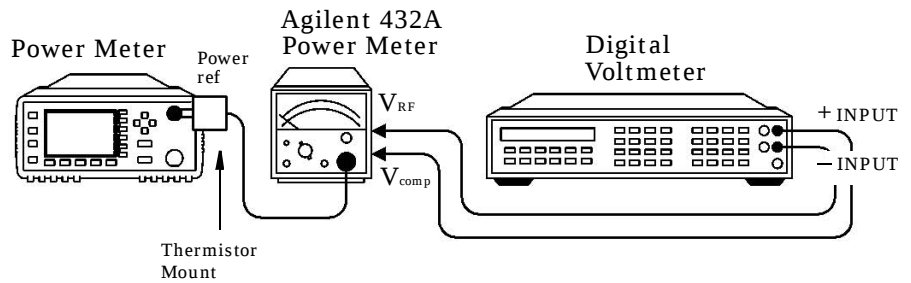

Figure 3-3: Adjustment Setup
1. Set up the DVM to measure resistance. Connect the DVM between the V_{RF} connector on the rear panel of the Agilent 432A and pin 1 on the thermistor mount end of the sensor cable. Verify that no power is applied to the Agilent 478A 2. Round off the DVM reading to two decimal places and record this value as the internal bridge resistance (R) of the test power meter (approximately 200 Ω). • R (Internal Bridge Resistance)_____Ω 3. Connect the equipment as shown in Figure 3-3. The leads should be isolated from ground. Ensure that the power reference oscillator is off. Ensure that both the power meter under test and the Agilent 432A have been powered on for at least 30 minutes before proceeding to the next step. 4. Set the Agilent 432A range switch to coarse zero and adjust the front panel coarse zero control to obtain a zero meter indication. 5. Fine zero the Agilent 432A on the most sensitive range, then set the range switch to 1 mW.